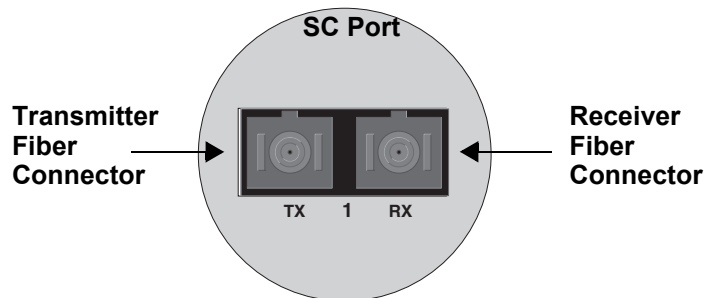

Figure 22. Dual SC Port
- ❑ A dual SC port consists of two separate connectors, as shown in Figure 22. Each connects to a separate fiber strand. One is for receiving packets and the other is for transmitting packets. When you connect a fiber optic cable to a dual SC port, be sure that the receiver fiber connector is connected to the transmitter connector on the remote end node, and the transmitter fiber connector is connected to the receiver connector on the remote node.